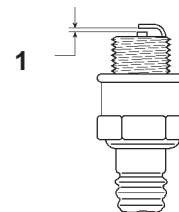

Figure 23
4. Set the spark plug gap at 0.035 in. (0.9 mm) (Fig. 23).